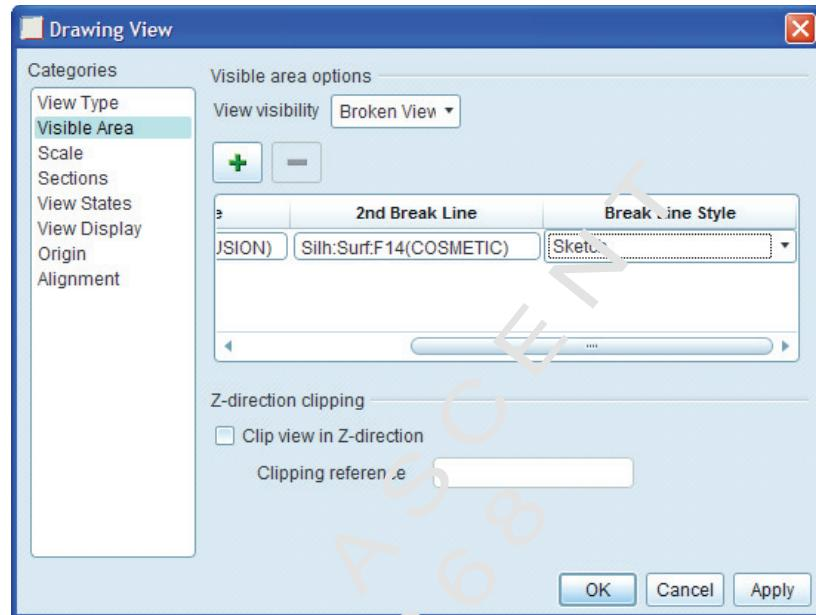

Figure 1–121
9. Sketch the spline shown in Figure 1–122 to represent the break line for the view. Press the middle mouse button to complete the spline.